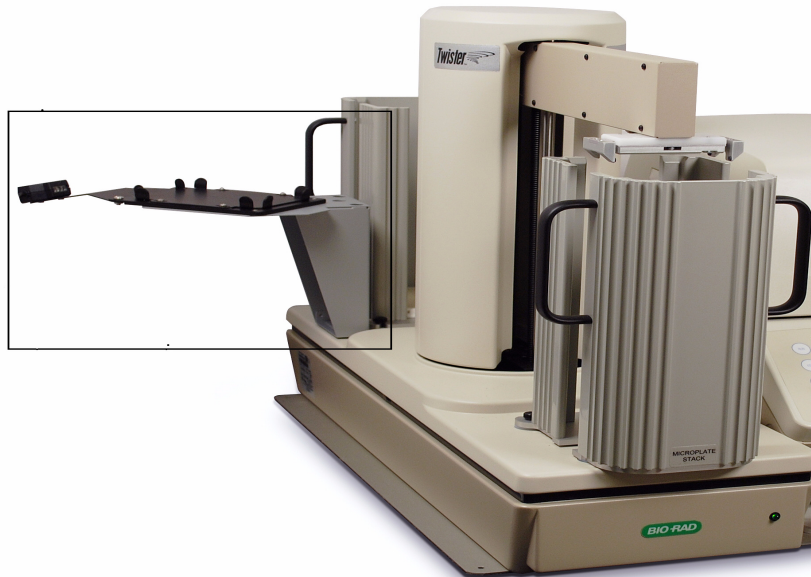

Figure 7. Bar code scanner platform placement.
- The bar code scanner platform will be located at the rear of the CFX automation system on the left side (Figure 7).